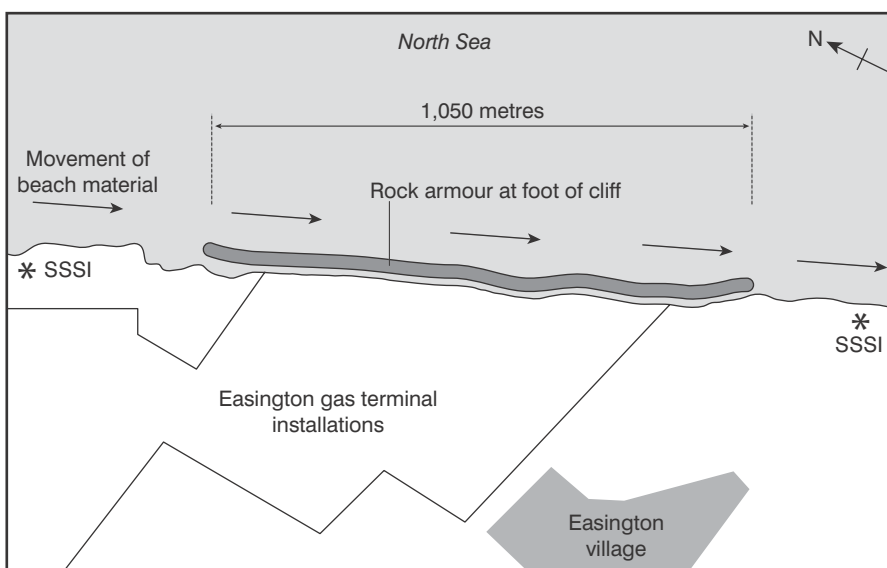

Figure 3: Easington's defences
**Easington** Major North Sea gas terminals are situated on the cliff top to the north of the village. When first built it was assumed that gas supplies would have run out before cliff erosion threatened the facility. However, gas supplies have remained strong and erosion has continued. With so much costly infrastructure at risk, protection was a priority (Figure 3). Consideration also had to be given to the two Environmentally Sensitive Areas (ESAs, both of which are also SSSIs) on either side of the terminal area. A 1 km long revetment was built at the base of the cliff at the terminal site, using 133,000 tonnes of rock. Disturbance to the two SSSIs had to be minimised, so the defences were designed to offer as little interference to the flow of sand